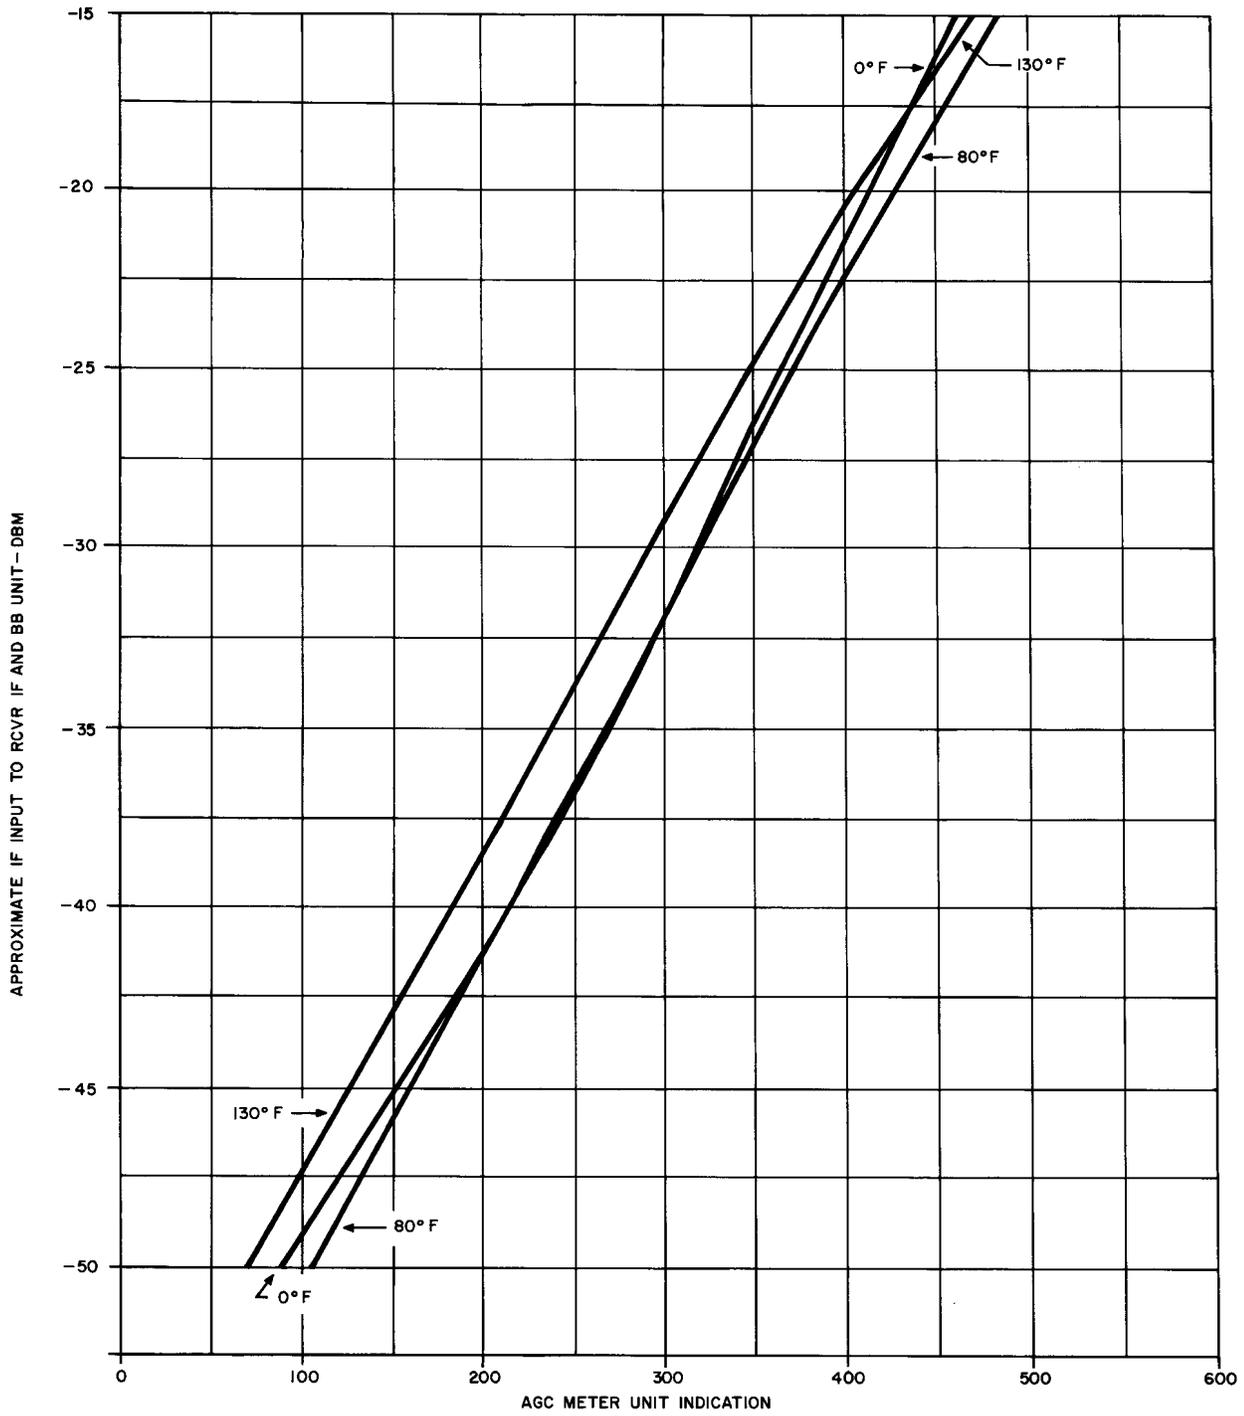
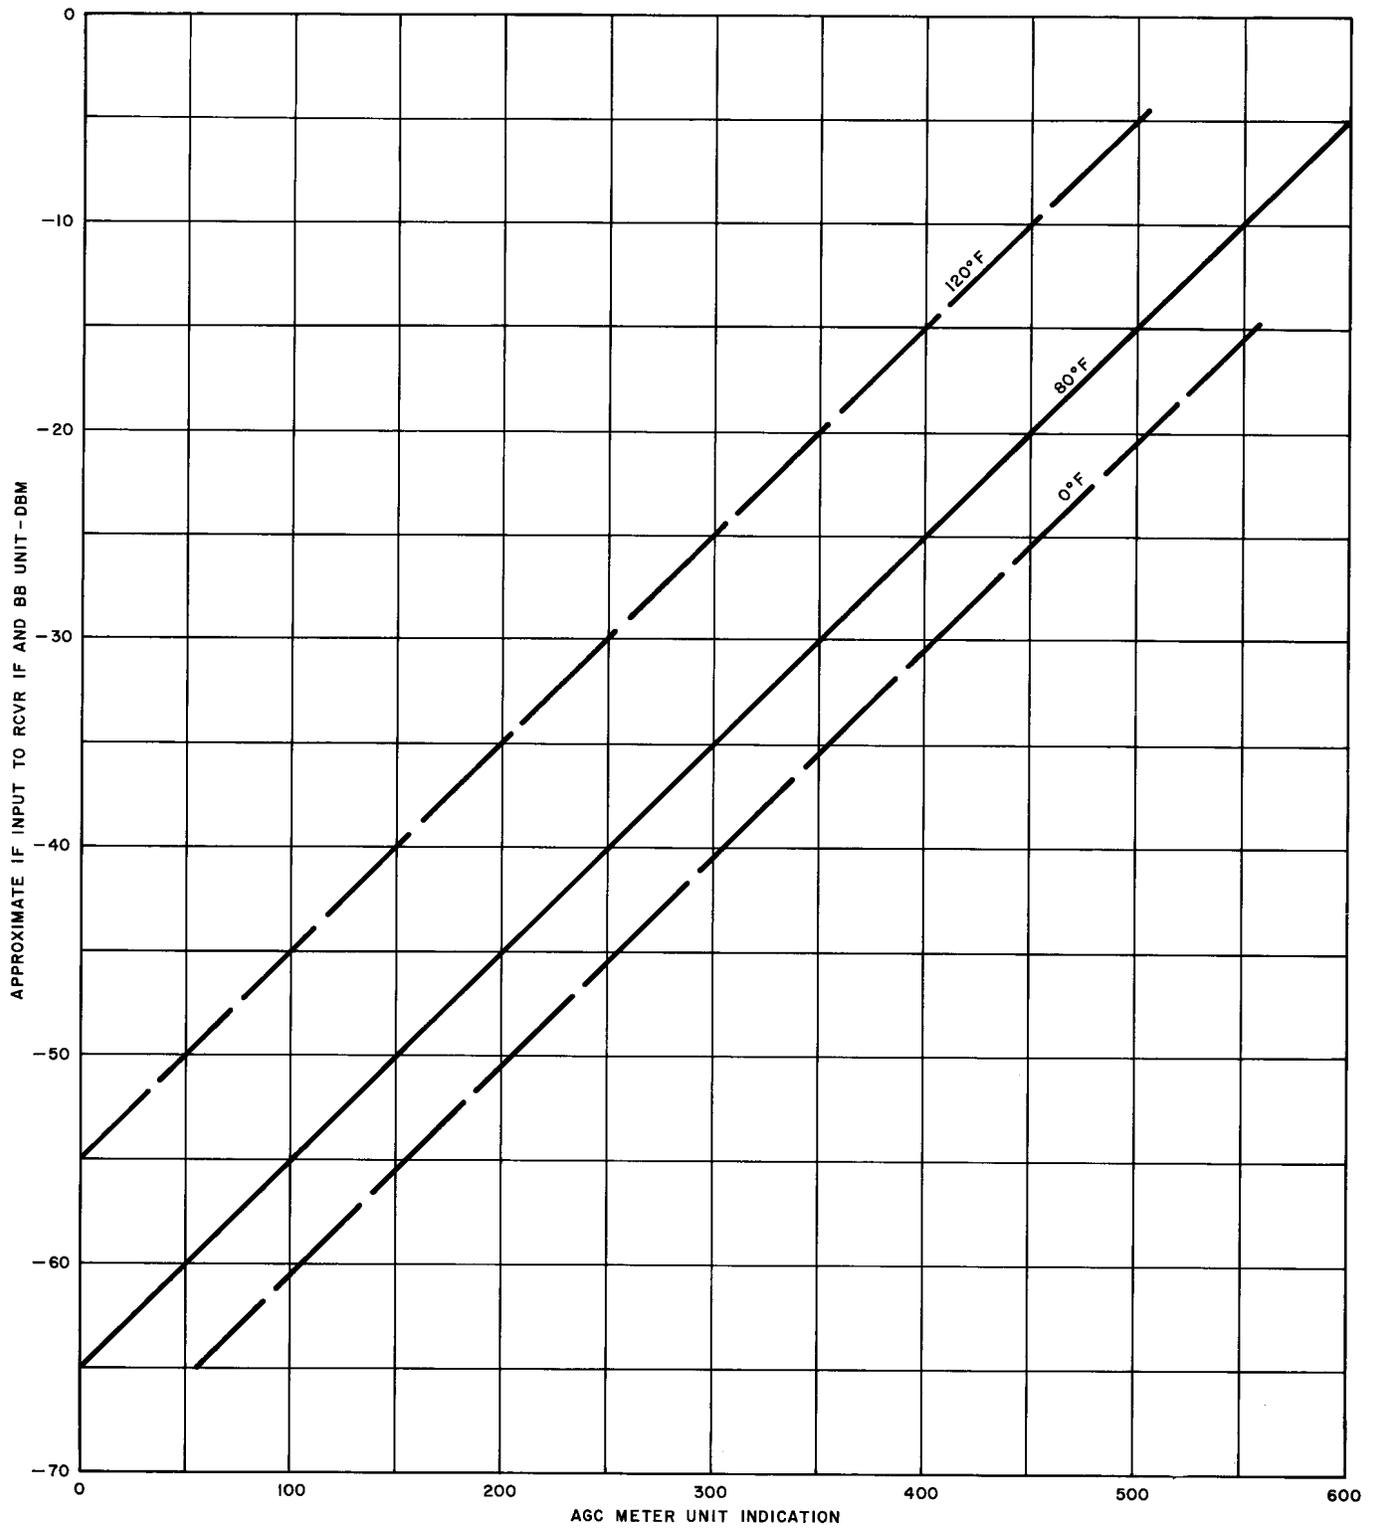

Fig. 2—J99296G,L3—Typical AGC Characteristics—Graph
Fig. 3—J99296G-2, L2—Typical AGC Characteristics—Graph
Requirement: The lower meter indication is the same as specified in Fig. 2 or Fig. 3 (± 10 units).
6	Refer to Fig. 2 or Fig. 3 to obtain the approximate signal input level to the receiver IF and baseband unit.
Requirement: The lower meter indication is the same as specified in Fig. 2 (± 10 units).
- 6 Refer to Fig. 2 or Fig. 3 to obtain the approximate signal input level to the receiver IF and baseband unit.